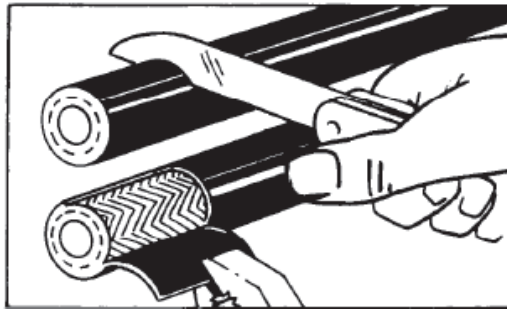

Figure 3 Cutting Hose Outer Cover
- f. Make a knife cut around the circumference of the hose to the depth of the braid, at a distance from the end of the hose equal to the inside length of the ferrule (Figure 3).